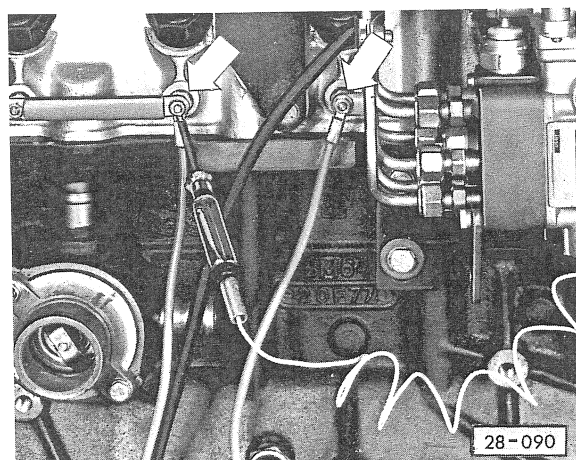

Fig. 2 Checking voltage supply
- Connect test lamp between current supply to cylinders 1-3 or 4-6 in turn and earth (Fig. 2)